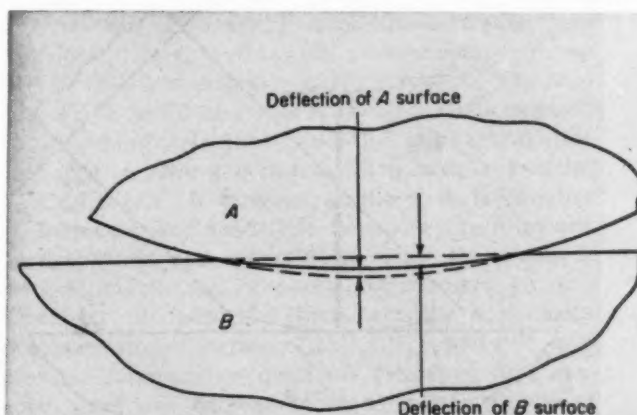

Fig. 2—Deflection of contact members
**Nature of Contact:** Certain basic fundamentals are present in all-metal traction contacts. *Fig. 1* shows such a contact with the axis of rotation of rolling member *A* parallel to the contact surface and the motion direction of race member *B*. When the traction force is approximately zero, the conditions are the same as in a radial ball bearing under pure radial load. Contact force capacity is the same, as is the hardness effect of the members and the finish requirements. Under no load the contact is theoretically a point having no area. Under load, deflections occur in both members at the contact point, producing an area of contact with stresses varying from edge to center. This deflection is normally very small but the area may be appreciable, *Fig. 2*. The surface of race member *B* is depressed and rolling member *A* is flattened. Position of *A* relative to *B* is changed by the sum of these two deflections. For a given average life and set of conditions, the allowable contact force varies as the square of the curvative diameter. Ultimate failure in the race contact surfaces is due to fatigue caused by repeated stress reversals and normally occurs beneath the surfaces, resulting in a spalling or flaking. Surface wear, in the absence of dirt, is not present. Failure, when it occurs, is apt to be quite fast. Useful life is an inverse function of speed or a direct function of the number of stress reversals.